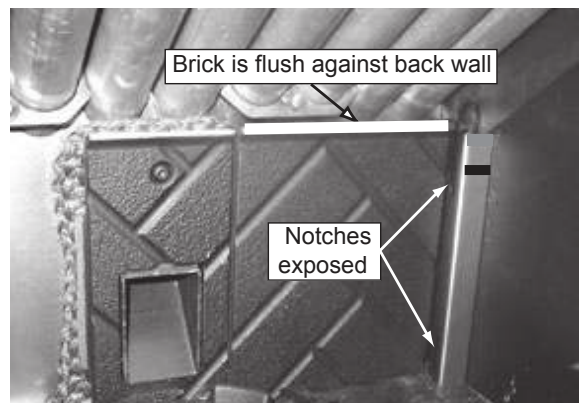

Figure 18.5
2. The brick will be flush against the back wall and notches exposed in the side bracket. **Figure 18.5.**